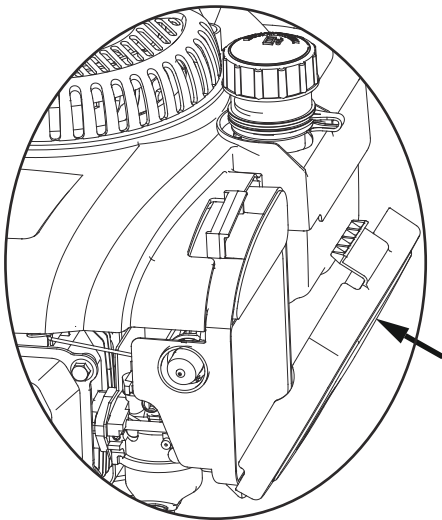

Fig. 16
3. Press down and lock the latch on the air filter compartment. (Fig. 16)